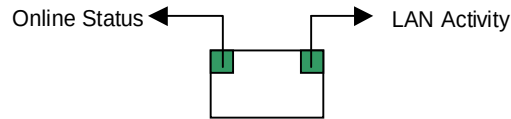

Figure 4-8: LAN Indicators
(2) LEDs located on the Ethernet port indicate the Ethernet connection status. See **Figure 4-8** for the locations of the two (2) LED indicators. Refer to **Table 4-7** for the LED definitions.